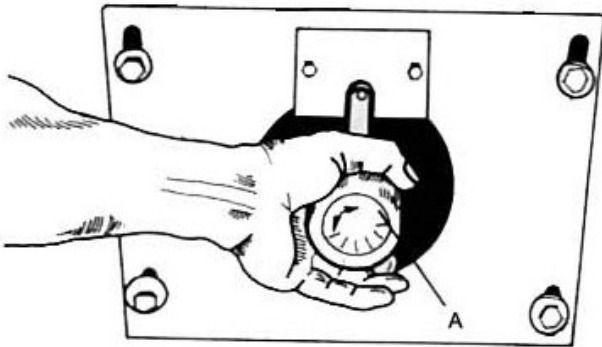

Fig. 14
This planer is equipped with a separate 2HP feed motor and variable feed speed control system. The feed rates are from 19 FPM to 39 FPM which meets the different requirement of soft stock and hard stock. It is easy to adjust by turning the dial knob (A) as shown in Fig.14. The variable speed adjustment dial (A) turns clockwise for low speed feeding and counterclockwise for higher speed selection.